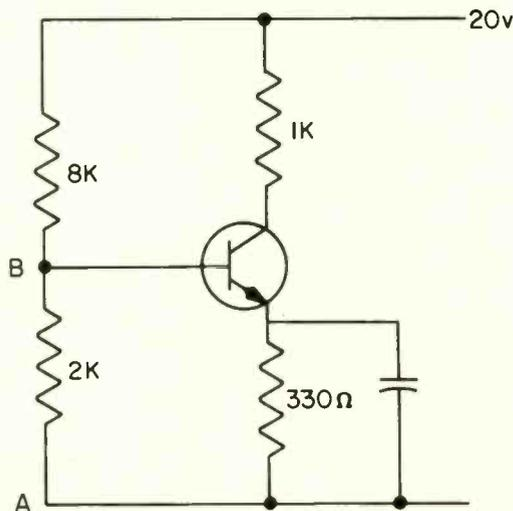

Fig. 1
2. The voltage  $V_{BA}$  would be approximately what in Fig. 1?